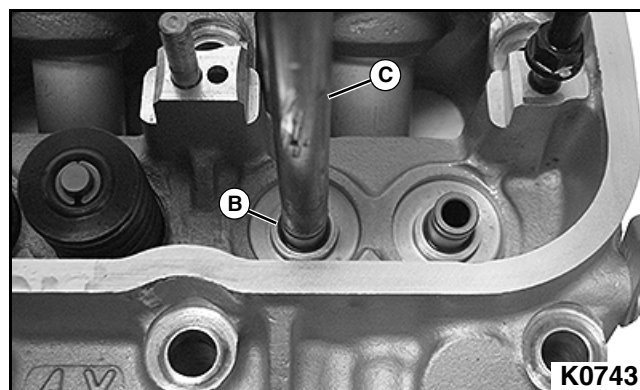

Figure 3-151: Removing the Valve Guide
4. Remove the valve guide (B) using a hammer with the proper valve guide driver (C). **See Figure 3-151.**